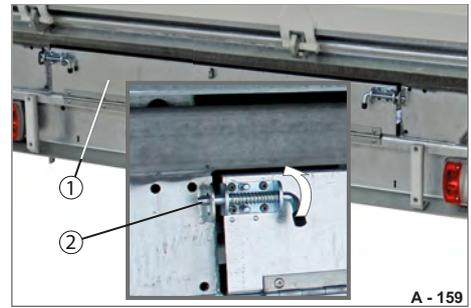

Fig. 166 Closing ramp plank bay
- ▶ Close the flap (Fig. 166/1) of the ramp plank bay.
- ▶ Turn the two spring bars (Fig. 166/2) into the horizontal position. The spring bar automatically snaps into place (by spring force). The flap of the ramp plank bay is locked.